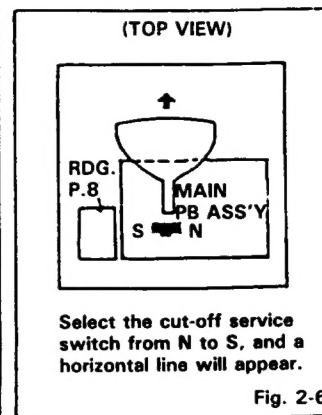

Fig. 2-6
4. Change the service switch as shown in Fig. 2-6, to the "S" position.
8. Return the service switch to normal (N) position. (Fig. 2-6)